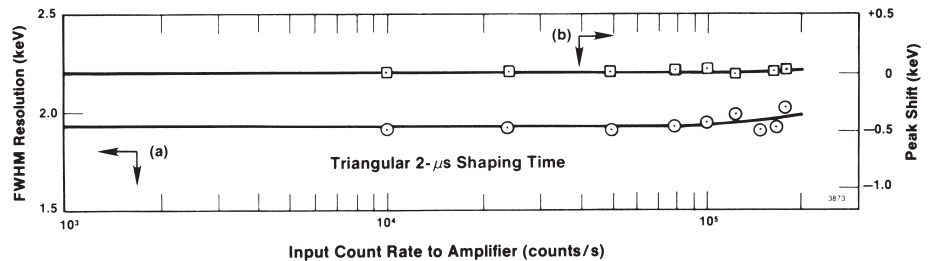

Fig. 2. (a) Resolution and (b) Peak Position Stability as a Function of Counting Rate. See specifications for spectrum broadening and spectrum shift.
To minimize spectrum distortion at medium and high counting rates (Fig. 2), the unipolar output incorporates a high-performance, gated, baseline restorer with several levels of automation. Automatic positive and negative noise discriminators ensure that the baseline restorer operates only on the true baseline between pulses in spite of changes in the noise level. No operator adjustment of the baseline restorer is needed when changes are made in the gain, the shaping time constant, or the detector characteristics. Negative overload recovery from the reset pulses generated by transistor-reset preamplifiers and pulsed optical feedback preamplifiers is also handled automatically. A monitor circuit gates off the baseline restorer and provides a reject signal for a multichannel analyzer until the baseline has safely recovered from the overload.
**SPECTRUM BROADENING† (Fig. 2)** Typically  $< 8\%$  broadening of the FWHM for counting rates up to 100,000 counts/s, and  $< 15\%$  broadening for counting rates up to 200,000 counts/s. Measured on the 1.33-MeV gamma-ray line from a  $^{60}\text{Co}$  radioactive source under the following conditions: 10% efficiency ORTEC GAMMA-X PLUS detector, 8.5-V amplitude for the 1.33-MeV gamma-ray on the unipolar output.
**SPECTRUM SHIFT† (Fig. 2)** Peak position typically shifts  $< \pm 0.018\%$  for counting rates up to 100,000 counts/s, and  $< \pm 0.05\%$  for counting rates up to 200,000 counts/s. Measured on the 1.33-MeV line under conditions specified for SPECTRUM BROADENING.